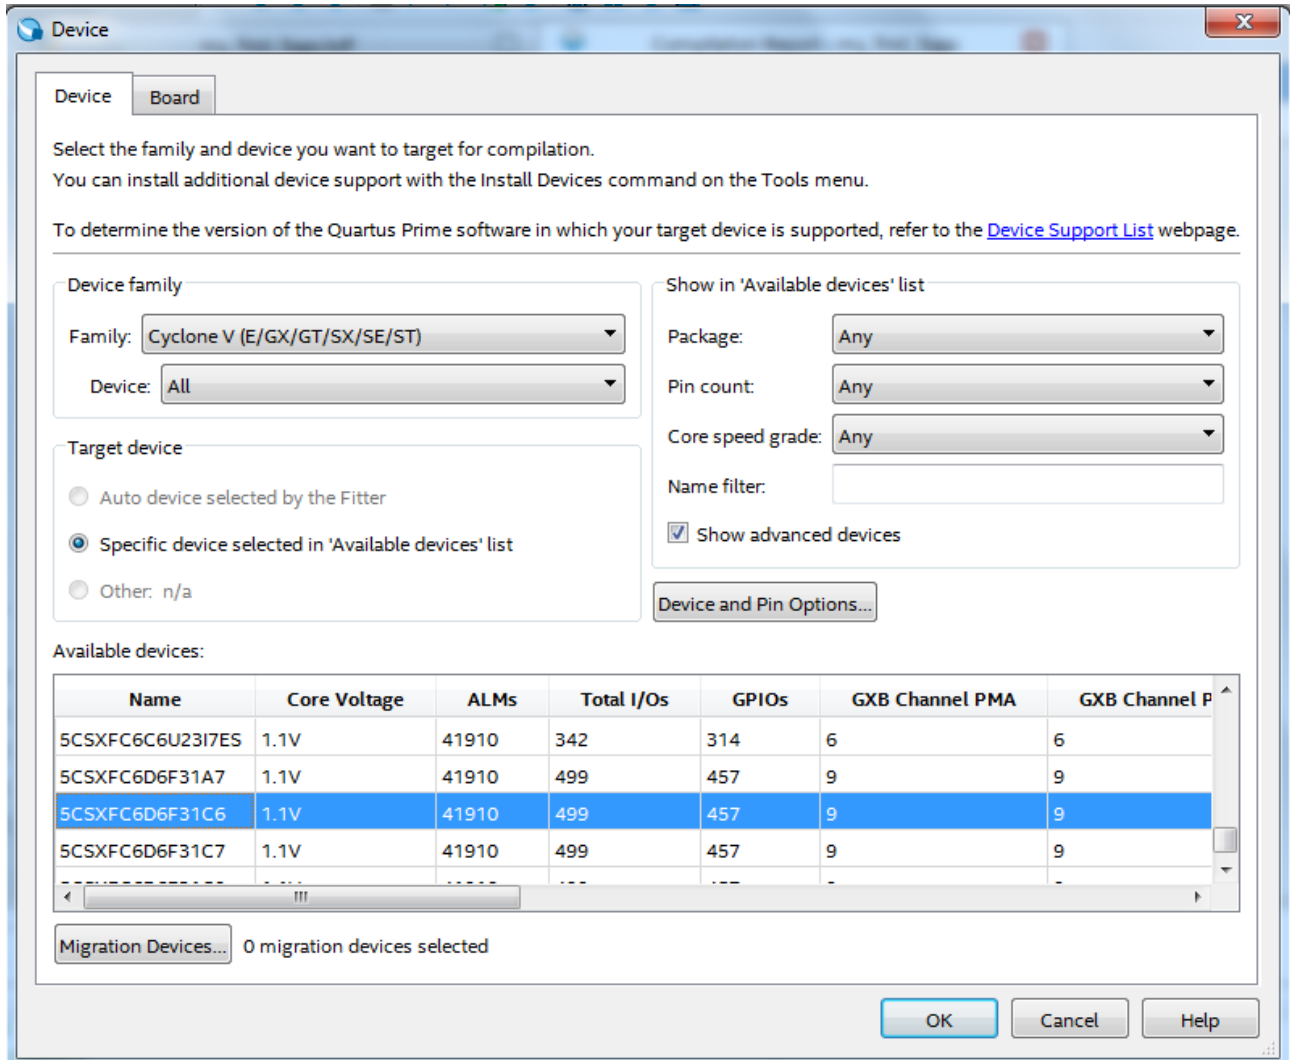

Figure 4-8 Device and Options
3. If other LEDs emit faintness light, Choose Assignments > Device. Click Device and Pin Options. See **Figure 4-8**.